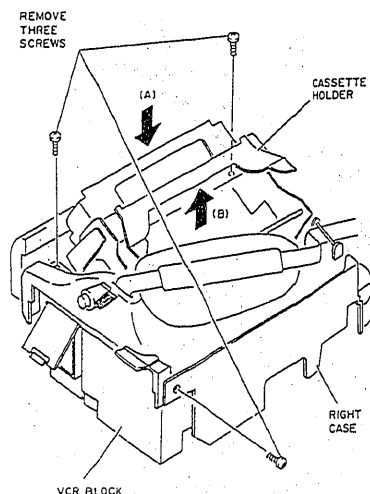

Fig. 2-8
- 1) Remove three (3) screws holding the right case. (See Fig. 2-8)
- 2) Remove the right case in the direction of arrow (B) while pushing the cassette holder in the direction of arrow (A).